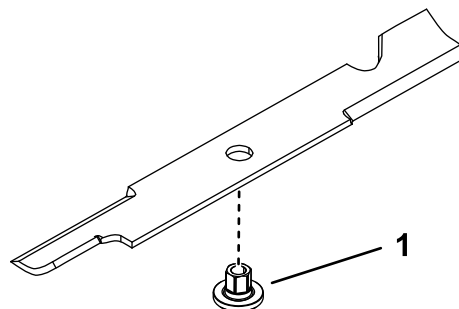

Figure 90
1. Install the bushing through the blade with the bushing flange on the bottom (grass) side of the blade (Figure 90).